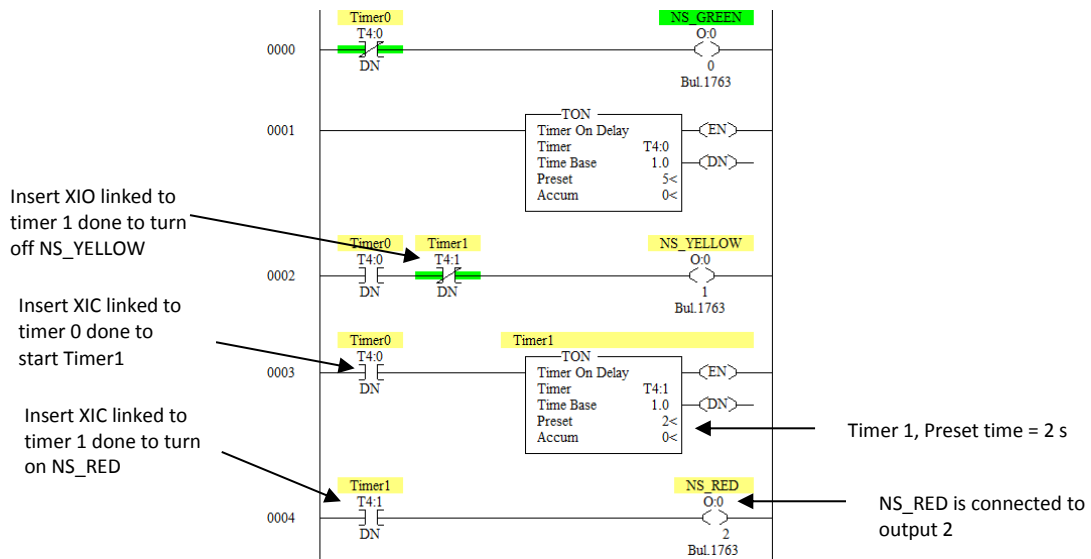

Figure 8: Timer 1 is started after timer 0 is done. After timer 1 is done it turns off the NS YELLOW and turns on NS_RED
16. End of timer 0 should start timer 1. At the end of timer 1, NS YELLOW is turned OFF and NS_RED is turned ON. Since timer 1 starts after timer 0 is done, a XIC switch inked to timer 0 to start timer 1 as in figure 8.